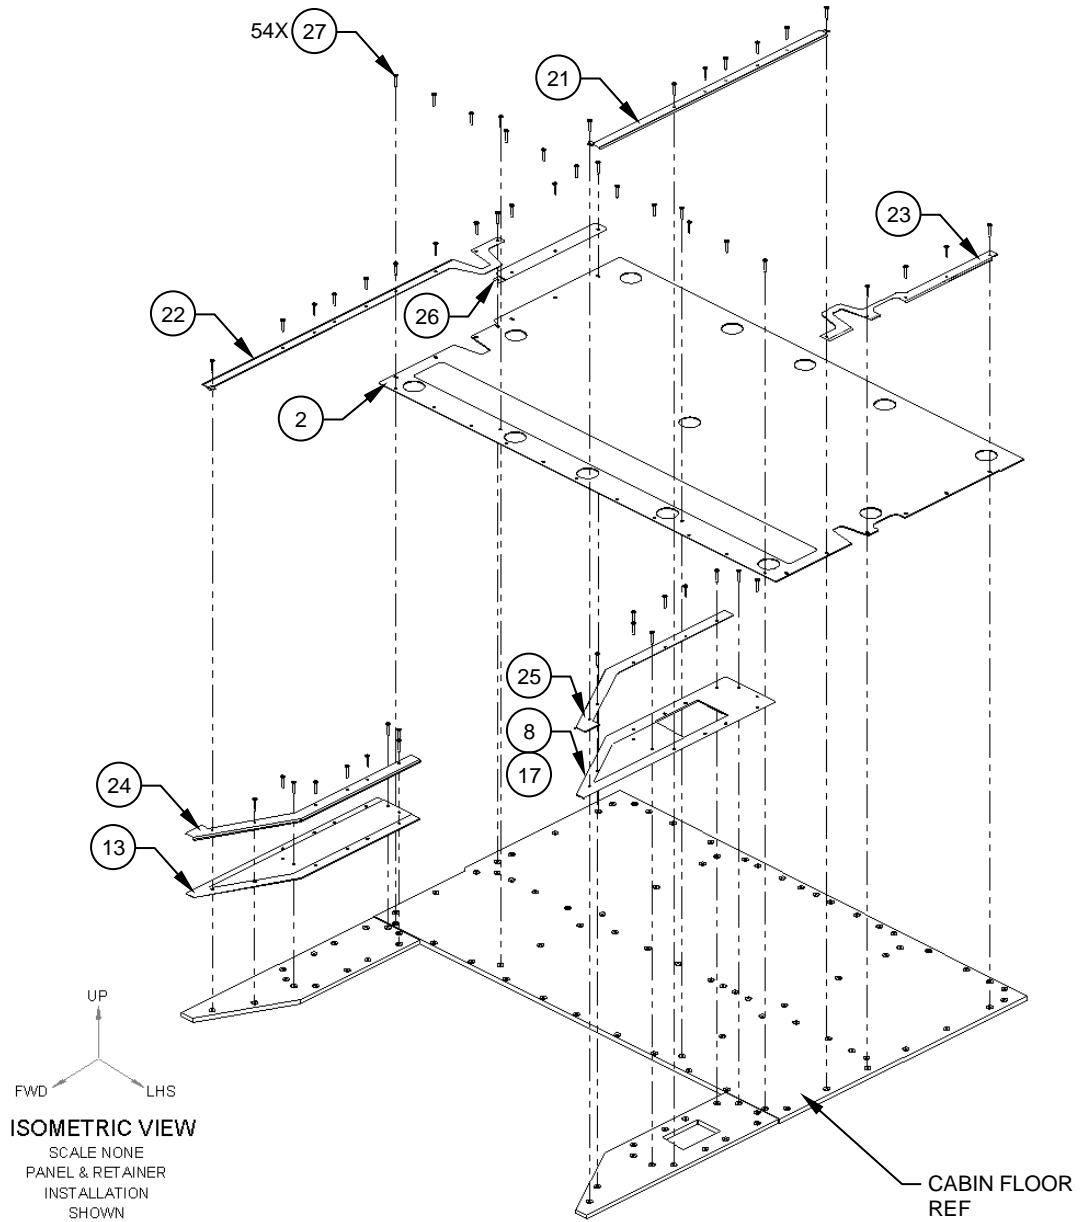

Figure 2
4. Install the AFT Cabin Floor Protection, Assy, (Item 2), and the RHS, FWD Panel, Assy, (Item 13) in their respective locations. Reference Figure 2.
5. For aircraft configured for **dual controls**, install the LHS, FWD Panel, Assy, (Item 8), in its respective location. Reference Figure 2.
6. For aircraft configured for **single controls**, install the LHS, FWD Panel, Non Dual, Assy, (Item 17, in its respective location. Reference Figure 2.
7. Install the 1x LHS FWD Sill, Detail, (Item 21), 1x RHS FWD Sill, Detail, (Item 22), 1x LHS AFT Sill, Detail, (Item 23), 1x RHS INBD Sill, Detail, (Item 24), 1x LHS INBD Sill, Detail, (Item 25), and 1x RHS AFT, Sill, Detail, (Item 26), from their respective locations. Reference Figure 2.
8. Install 54x Screw, Washer Head, (Item 27), in the locations shown. Reference Figure 2.